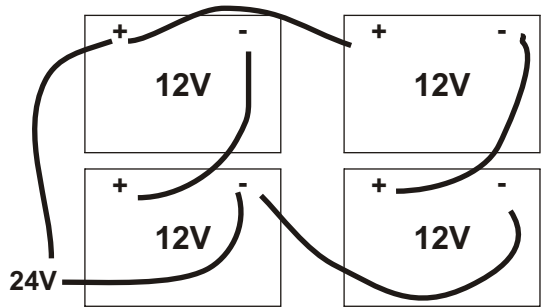

Figure 6
This results in a 12Vdc battery bank with a capacity of 2400 Watt-Hours. Batteries of dissimilar capacities may be connected in parallel without any detrimental effects. These batteries must however be of the same type. That is to say, they must all be lead acid deep cycle batteries or they must be nickel-cadmium batteries. **DO NOT CONNECT DISSIMILAR BATTERIES IN PARALLEL**, such as a lead-acid to a nickel-cadmium, damage to the batteries may result. Batteries may also be connected in combinations of series and parallel to get higher voltages and higher capacities. This combination is shown in figure 6. This is just a combination of the above connections with a couple more rules of connection. As shown in figure 6 each series connection of batteries will be referred as a branch. Each of these branches must have the same terminal voltage ( ie. 24Vdc, 36Vdc, etc. ). The Watt-Hour capacity of each battery in a branch must be the same. Any two branches can be of different Watt-Hour capacity. These branches can then all be connected in parallel to create a battery bank of any size. The diagram in figure 6 shows two (2) branches of two (2) batteries each connected in parallel to give a total of 4800 Watt-Hours of capacity.